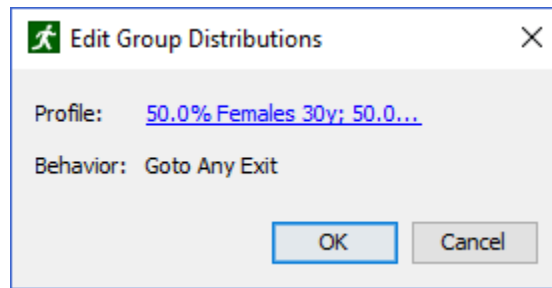

Figure 109. Edit Group Distributions dialog
1. Select one or more groups of occupants from the Navigation View, right-click them, and from the right-click menu, select **Properties**, or double-click the occupant group. The Edit Group Distributions dialog will appear as shown in Figure 109.